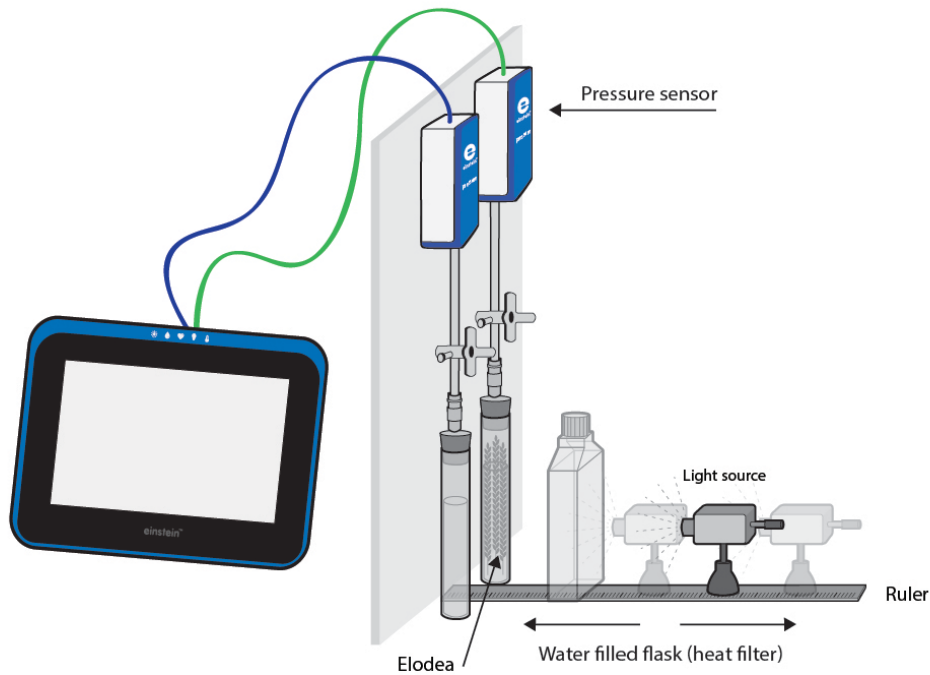

Figure 1
1. Assemble the equipment as shown in Figure 1.